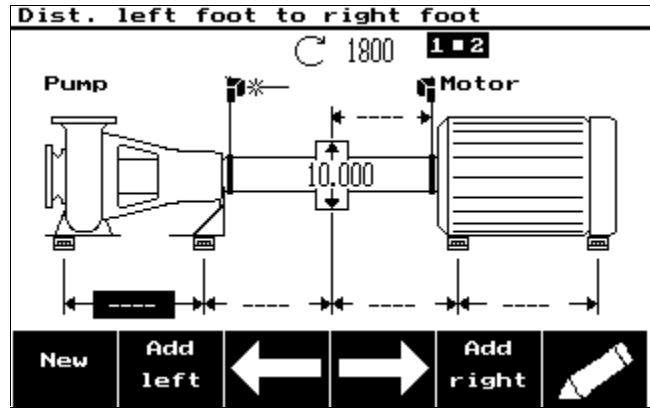

Figure 2
- 1) The first step is to press the **Add feet** softkey. This automatically configures the left machine as a moveable four-footed machine (see Figure 2). Then enter all necessary dimensions.